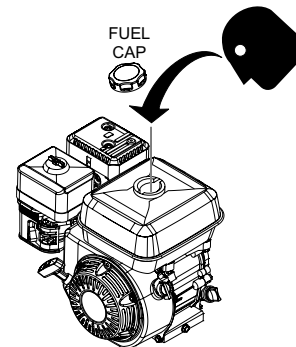

Figure 5. Fuel Check
1. Visually inspect (Figure 5) to see if fuel level is low. If fuel is low, replenish with unleaded fuel.